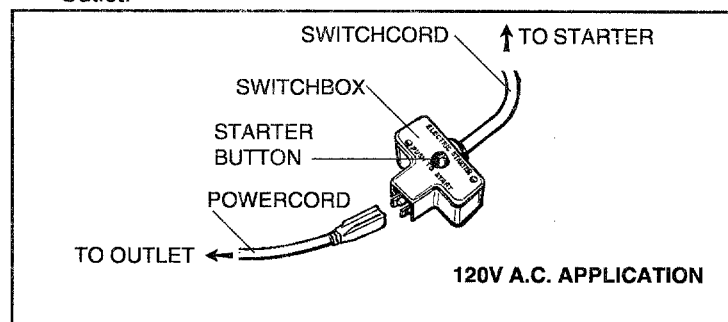

Figure 5
② ELECTRIC STARTER (see Figure 5)
- Plug other end of power cord (see Figure 5) into wall receptacle.
- Push starter button (see Figure 5) or turn ignition switch key (see equipment manufacturer's instructions) to crank engine.
- Disconnect power cord (see Figure 5) from wall receptacle first, and then from switchbox on engine.